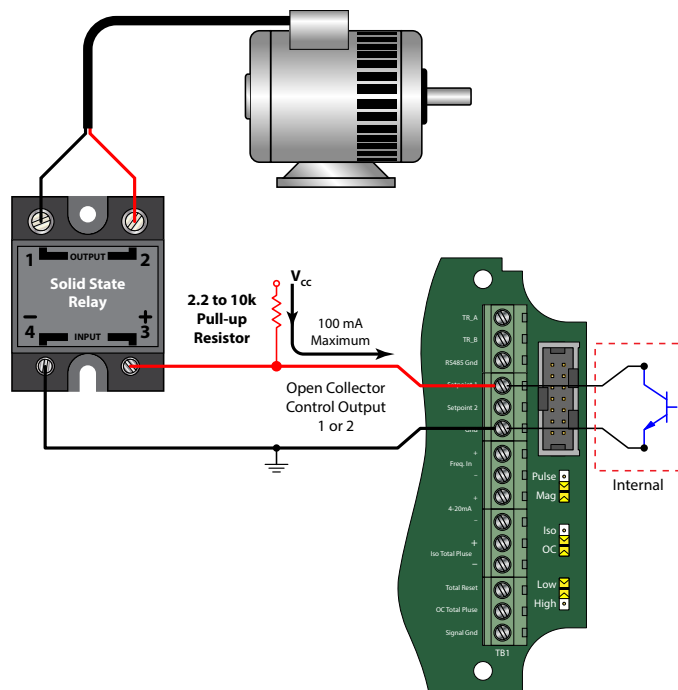

Figure 13: Typical solid state relay connections
**NOTE:** In most instances, the current capacity of an open collector transistor is not sufficient to operate old style counters that relied on relay contact closures. When used with basic counting circuits, a solid-state relay is needed. See Figure 13 on page 23 for a connection example.